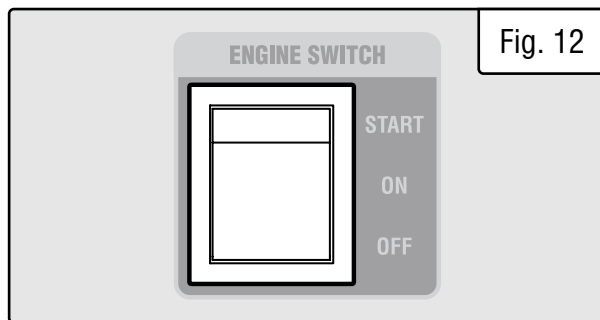

Fig. 12
4. Push the engine switch (Fig. 12) to the START position and hold for 2-3 seconds until the engine starts, then release.
4a. Push the engine switch (Fig. 12) to the ON position.